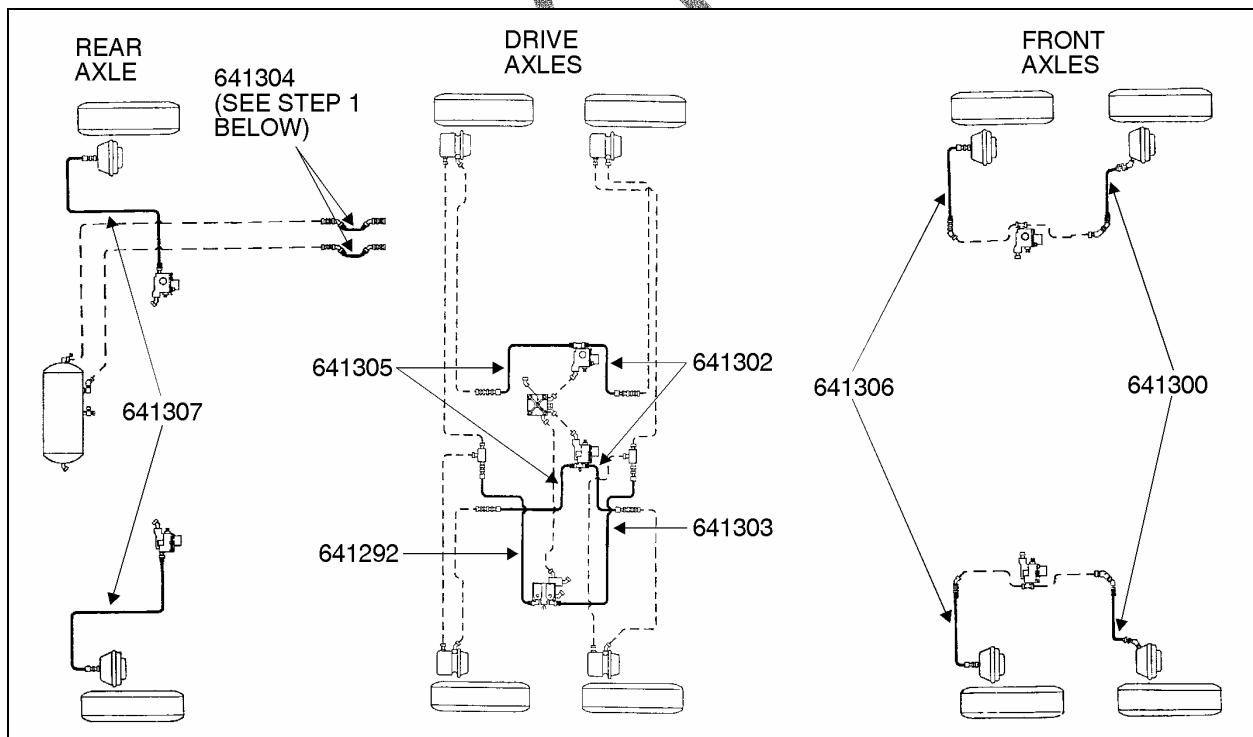

FIGURE 1
C. The figure 1 represents the hoses that must be replaced (part numbers of the hoses that should be used are identified on the figure). Each one should be replaced as described in procedure in step **B**.
1. The two hoses #641304 (Fig. 1) are located in the articulation compartment. To gain access to this compartment, open baggage compartment located immediately after articulation on L.H. side of vehicle. Remove the phillips head screws retaining panel on the front side of compartment, remove panel and identify the two hoses (Fig. 2) that should be changed as described in the procedure in step B.
2. The other hoses (refer to figure 1 for part numbers) are located in the rear axle (5th axle) area, drive axles (3rd and 4th axles) area and front axles (1st and 2nd axles) area. Gain access from under the vehicle.